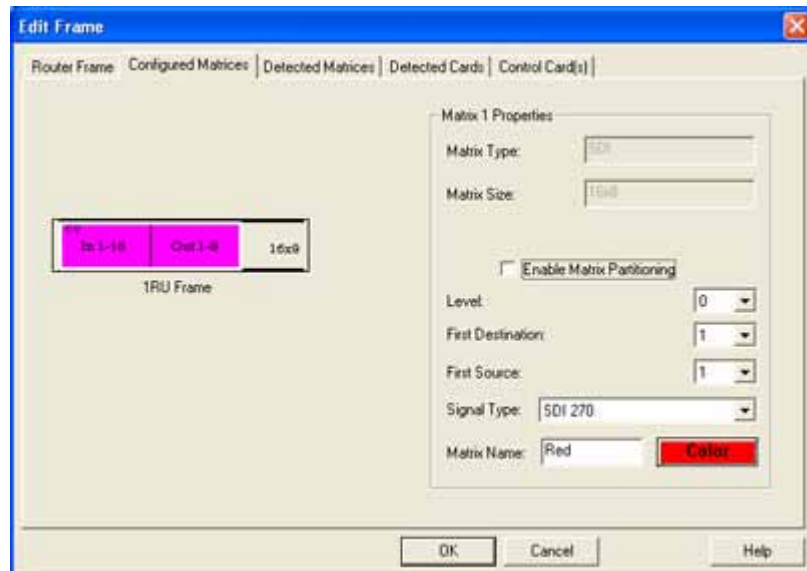

Figure 2-6 Configured Matrices Tab
- 3 Select the Configured Matrices tab. Matrix information should appear as shown in Figure 2-6.